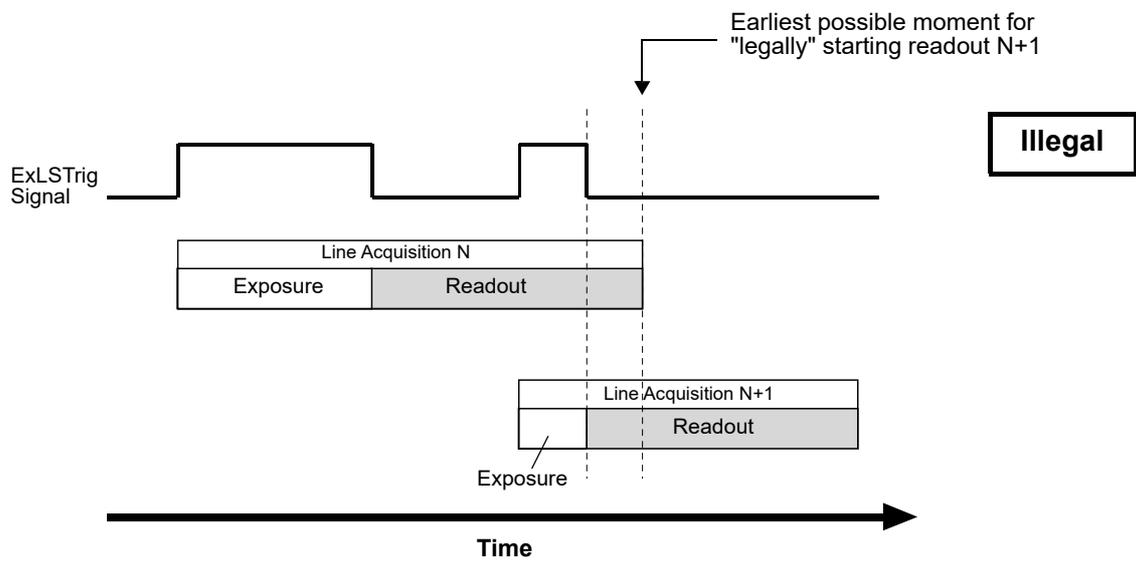
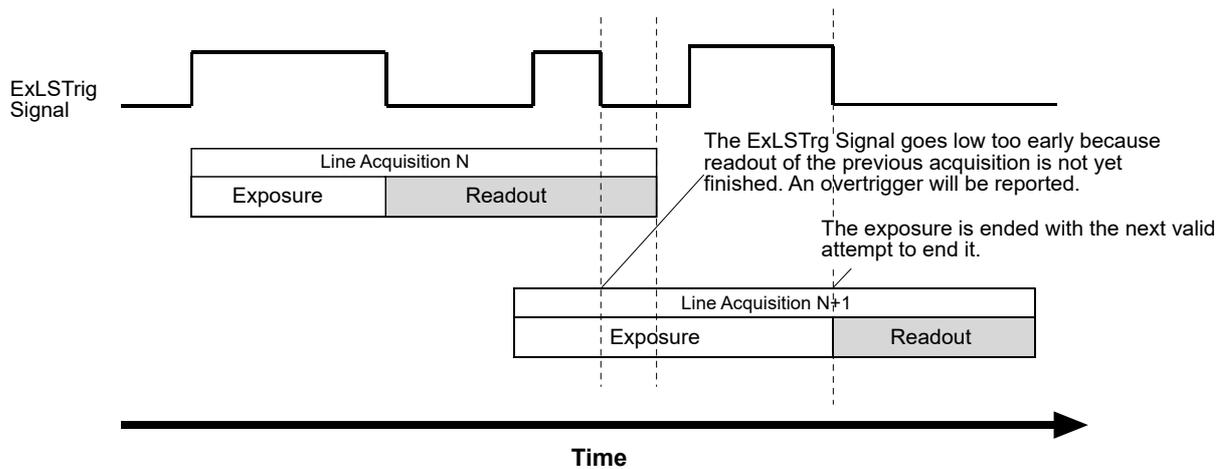

Fig. 24: Exposure N+1 Illegally Ends Before Readout of the Preceding Line Acquisition N Has Ended; Applies to Trigger Width Exposure Mode Only
Fig. 25: Extension of Exposure N+1 After the Illegal Attempt of Ending It Too Early; Applies to Trigger Width Exposure Mode Only
Certain attempts of triggering overlapped line acquisition are illegal and do not result in line acquisitions: When a line start trigger signal attempts an illegal line acquisition the trigger signal will be ignored and, accordingly, no line acquisition will be performed. In addition, the trigger signal will be reported as an overtrigger (see also Section 8.10.2 on page 135). Illegal triggering and impossible overlaps are shown in Fig. 23 on page 74 and Fig. 24 on page 74.
The exposure overhead (see Fig. 23 on page 74) is part of every exposure process. For simplicity, it is omitted from the other figures illustrating exposure and readout (see, for example, Fig. 24 on page 74).
- The line start trigger goes low to end the exposure for line acquisition N+1 before readout for acquisition N has ended (premature exposure end; see Fig. 24 on page 74). This would result in the illegal overlap of two readouts (in trigger width exposure mode only).
When the line start trigger has illegally gone low to end the exposure for line acquisition N+1 before readout for acquisition N has ended (in trigger width exposure mode; see Fig. 24), the camera will behave as shown in Fig. 25: The camera will extend the exposure and end it when the next valid trigger for ending exposure occurs.